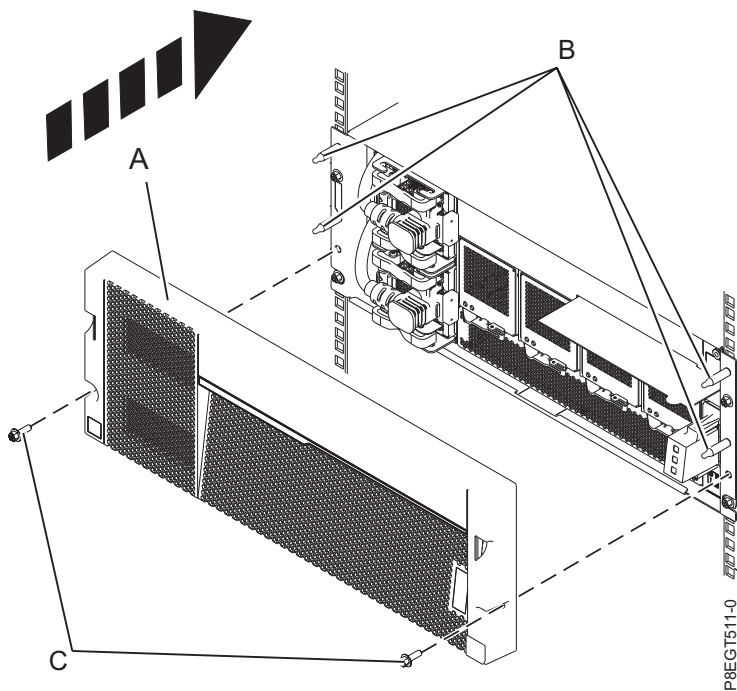

Figure 9. Replacing the front cover
3. Replace the front cover (A) by pressing the cover onto the locating pins (B). If the cover had screws (C) when the cover was removed, secure the cover with the screws. See Figure 9.